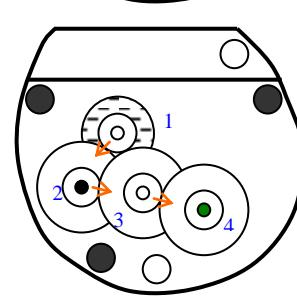

Figure 21
A 1.5 Thread longer end of axle shaft, with smooth side of gear down, through hole (4) just to **right** of gear 3 so it meshes with gear (3). (Fig. 21)